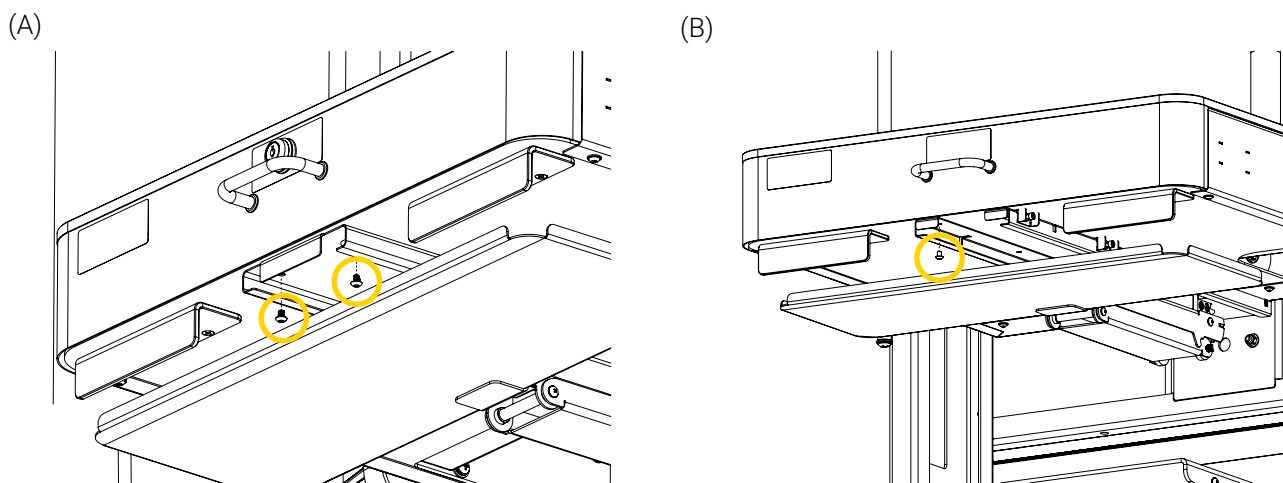

Figure 6: Removing the last screw(s)
- For an Endoscopy Cart with a 1-part sliding mechanism, remove the last two (2) screws (Figure 6 A). The hardware will not be reused and can be discarded.
- For an Endoscopy Cart with a 2-part sliding mechanism, remove the last of the four (4) screws on the rail located on the left-hand side (Figure 6 B). The hardware will not be reused and can be discarded.